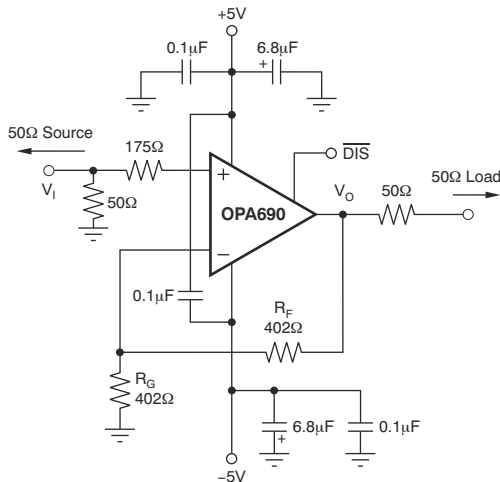
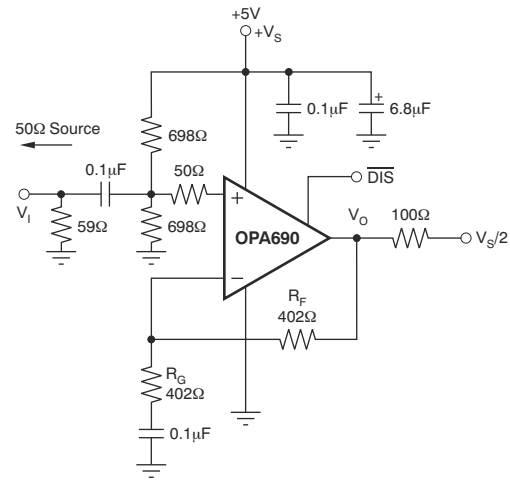

Figure 7-1. DC-Coupled, $G = 2\text{ V/V}$, Bipolar-Supply Specification and Test Circuit
Figure 7-2. AC-Coupled, $G = 2\text{ V/V}$, Single-Supply Specification and Test Circuit
at $T_A = 25^\circ C$, $G = 2$, $R_F = 402\Omega$, and $R_L = 100\Omega$ (unless otherwise noted); see Figure 7-1 for ac performance only
at $T_A = 25^\circ C$, $G = 2$, $R_F = 402\Omega$, and $R_L = 100\Omega$ (unless otherwise noted); see Figure 7-2 for ac performance only
Figure 7-1 shows the dc-coupled, gain of 2 V/V, dual power-supply circuit configuration used as the basis of the Section 6.11. For test purposes, the input impedance is set to 50 Ω with a resistor to ground and the output impedance is set to 50 Ω with a series output resistor. Voltage swings reported in the specifications are taken directly at the input and output pins, while output powers (dBm) are at the matched 50- Ω load. For the circuit of Figure 7-1, the total effective load is 100 Ω || 804 Ω . The disable control line is typically left open to maintain normal amplifier operation. An additional resistor (175 Ω) is included in series with the noninverting input. Combined with the 25- Ω DC source resistance looking back towards the signal generator, this gives an input bias current canceling resistance that matches the 200- Ω source resistance seen at the inverting input (see Section 8.1.8). In addition to the usual power-supply decoupling capacitors to ground, a 0.1- μ F capacitor is included between the two power-supply pins. In practical printed-circuit board (PCB) layouts, this optional-added capacitor typically improves the 2nd-harmonic distortion performance.
Figure 7-2 shows the AC-coupled, gain of 2, single-supply circuit configuration which is the basis of the 5 V and Section 6.12. Although not a rail-to-rail design, the OPA690 requires minimal input and output voltage headroom compared to other very wideband voltage-feedback op amps. The device delivers a 3- V_{PP} output swing on a single 5-V supply with > 120-MHz bandwidth. The key requirement of broadband single-supply operation is to maintain input and output signal swings within the useable voltage ranges at both the input and the output. The circuit of Figure 7-2 establishes an input midpoint bias using a simple resistive divider from the 5-V supply (two 698- Ω resistors). The input signal is then ac-coupled into the midpoint voltage bias. The input voltage can swing
Voltage-feedback op amps exhibit decreasing closed-loop bandwidth as the signal gain is increased. In theory, this relationship is described by the gain bandwidth product (GBP) shown in Section 6.5 and Section 6.7. Ideally, dividing GBP by the noninverting signal gain (also called the noise gain, or NG) predicts the closed-loop bandwidth. In practice, this relationship only holds true when the phase margin approaches 90°, as in high-gain configurations. At low gains (increased feedback factors), most amplifiers exhibit a more complex response with lower phase margin. The OPA690 is compensated to give a slightly peaked response in a noninverting gain of 2 V/V (see Figure 7-1). This compensation results in a typical gain of 2 bandwidth of 220 MHz, far exceeding that predicted by dividing the 300 MHz GBP by 2. Increasing the gain causes the phase margin to approach 90° and the bandwidth to more closely approach the predicted value of (GBP/NG). At a gain of 10, the 30-MHz bandwidth shown in the $\pm 5\text{-V}$ *Electrical Characteristics* agrees with that predicted using the simple formula and the typical GBP of 300 MHz.
The frequency response in a gain of 2 V/V can be modified to achieve exceptional flatness by simply increasing the noise gain to 2.5. One method, without affecting the two signal gain, is to add an 804- Ω resistor across the two inputs in the circuit of Figure 7-1. A similar technique can be used to reduce peaking in unity-gain (voltage-follower) applications. For example, by using a 402- Ω feedback resistor along with a 402- Ω resistor across the two op amp inputs, the voltage follower response is similar to the gain of 2 response of Figure 7-2. Reduce the value of the resistor across the op amp inputs to further limit the frequency response due to increased noise gain.
The OPA690 is a general-purpose, wideband voltage-feedback op amp; therefore, all of the familiar op amp application circuits are available to the designer. Inverting operation is one of the more common requirements and offers several performance benefits. Figure 8-1 shows a typical inverting configuration where the I/O impedances and signal gain from Figure 7-1 are retained in an inverting circuit configuration.
The second major consideration, touched on in the previous paragraph, is that the signal source impedance becomes part of the noise gain equation and influences the bandwidth. For the example in Figure 8-1, the R_M value combines in parallel with the external 50- Ω source impedance, yielding an effective driving impedance of $50 \Omega \parallel 67 \Omega = 28.6 \Omega$. This impedance is added in series with R_G for calculating the noise gain (NG). The resultant NG is 2.8 for Figure 8-1, as opposed to only 2 if R_M can be eliminated as discussed previously. Therefore, the bandwidth is slightly less for the circuit of Figure 8-1 than for the gain of 2 circuit of Figure 7-1.
A good practice is to target the parallel combination of R_F and R_G (see Figure 7-1) to be less than approximately 300 Ω . The combined impedance $R_F \parallel R_G$ interacts with the inverting input capacitance, placing an additional pole in the feedback network, and thus, a zero in the forward response. Assuming a 2-pF total parasitic on the inverting node, holding $R_F \parallel R_G < 300 \Omega$ keeps this pole greater than 250 MHz. Alone, this constraint implies that the feedback resistor R_F can increase to several k Ω at high gains. This result is acceptable as long as the pole formed by R_F and any parasitic capacitance appearing in parallel is kept out of the frequency range of interest.
The OPA690 provides good distortion performance into a 100- Ω load on ± 5 -V supplies. Relative to alternative solutions, this device provides exceptional performance into lighter loads, while operating on a single 5-V supply. Increasing the load impedance improves distortion directly. Remember that the total load includes the feedback network; in the noninverting configuration (see Figure 7-1), this total load is sum of $R_F + R_G$, while in the inverting configuration the total load is just R_F . Also, providing an additional supply-decoupling capacitor (0.1 μ F) between the supply pins (for bipolar operation) improves the 2nd-order distortion.
Evaluating these two equations for the OPA690 circuit and component values (see Figure 7-1) gives a total output spot noise voltage of 12.3 nV/√Hz and a total equivalent input spot noise voltage of 6.1 nV/√Hz. This is including the noise added by the bias current cancellation resistor (175 Ω) on the noninverting input. This total input-referred spot noise voltage is only slightly higher than the 5.5-nV/√Hz specification for the op amp voltage noise alone. This is the case as long as the impedances appearing at each op amp input are limited to the previously recommend maximum value of 300 Ω. Keeping both $(R_F \parallel R_G)$ and the noninverting input source impedance less than 300 Ω satisfies both noise and frequency response flatness considerations. Because the resistor-induced noise is relatively negligible, additional capacitive decoupling across the bias current cancellation resistor (R_B) for the inverting op amp configuration of Figure 8-1 is not required.
The balanced input stage of a wideband voltage-feedback op amp allows good output dc accuracy in a wide variety of applications. Although the high-speed input stage does require relatively high input bias current (typically $\pm 8 \mu\text{A}$ at each input terminal), the close matching can be used to reduce the output dc error caused by this current. The total output offset voltage can be considerably reduced by matching the dc source resistances appearing at the two inputs. This matching reduces the output dc error due to the input bias currents to the offset current times the feedback resistor. Evaluating the configuration of Figure 7-1, and using worst-case 25°C input offset voltage and current specifications, gives a worst-case output offset voltage equal to:
As a worst-case example, compute the maximum T_J using an OPA690-DBV (6-pin SOT-23 package) in the circuit of Figure 7-1 operating at the maximum specified ambient temperature of 85°C and driving a grounded 20-Ω load.
Both the input signal and the gain setting resistor are ac-coupled using 0.1- μ F blocking capacitors (actually giving band-pass response with the low-frequency pole set to 32 kHz for the component values shown). As discussed for Figure 7-2, this allows the midpoint bias formed by the two 1.87-k Ω resistors to appear at both the input and output pins. The midband signal gain is set to 4 (12 dB) in this case. The capacitor to ground on the noninverting input is intentionally set larger to dominate input parasitic terms. At a gain of 4, the OPA690 on a single supply shows approximately 80-MHz small- and large-signal bandwidth. The resistor values are slightly adjusted to account for this limited bandwidth in the amplifier stage. Tests of this circuit show a precise 5-MHz, -3-dB point with a maximally flat pass band (greater than the 32-kHz ac-coupling corner), and a maximum stop-band attenuation of 36 dB at the -3-dB bandwidth of 80 MHz of the amplifier.